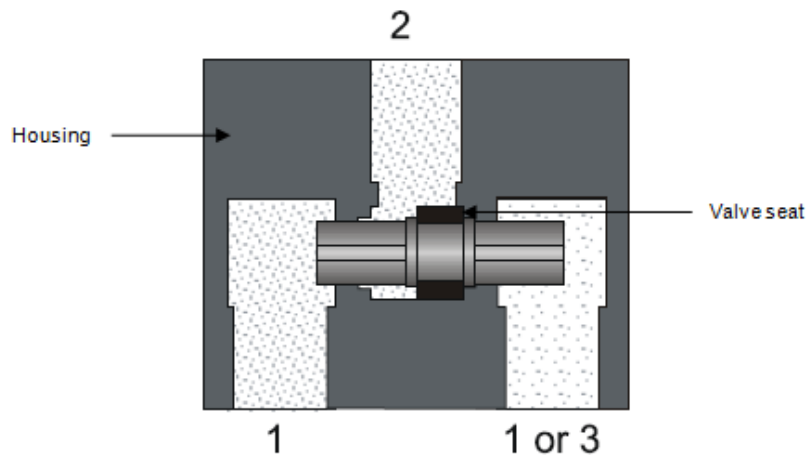

FIG 1.
A. The shuttle valve consist of the following components: (Fig 1)